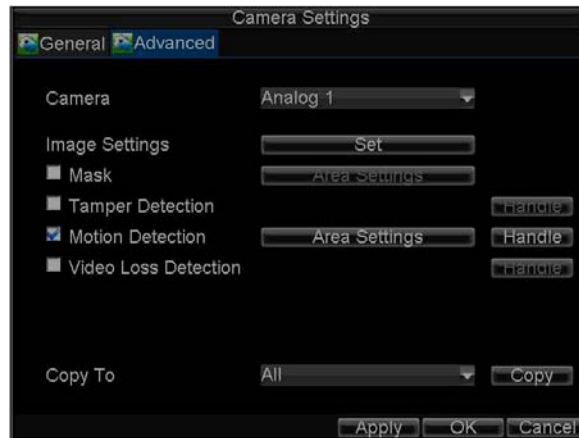

Figure 2. Advanced Camera Settings
2. Select the **Advanced** tab to enter the **Advanced Camera Settings** menu, shown in Figure2.